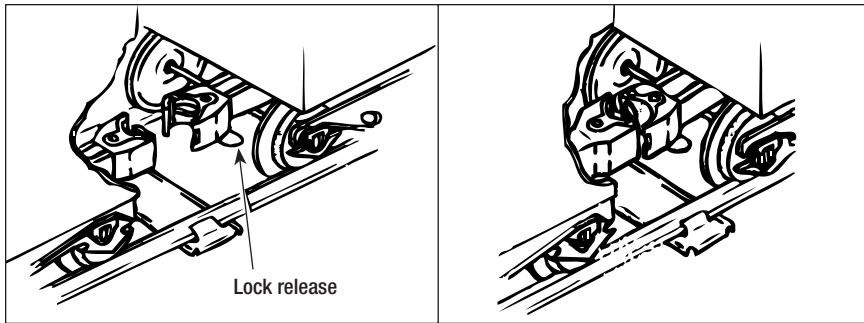

Figure 5. Coupler operation
**W**hen coupling your cars, at least one of the mating couplers must be open as shown at the left in Figure 5. Press down on the lock release to open the coupler, then push the cars toward each other until they lock together.